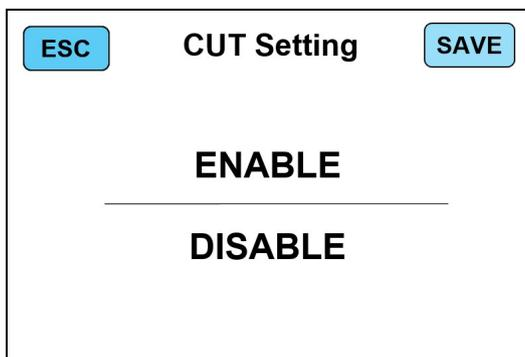
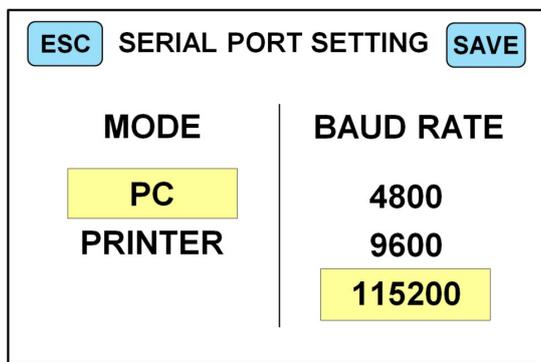

Figure 55
Figure 56
- 2) Click “4. Printer Cut” to enter the interface of cut setting, as shown in Figure 55.
3) Press “**3.Serial port mode**” under figure 55 and enter into SERIAL PORT MODE interface as shown in figure 56.
5) According to the software version number displayed, select the corresponding software version in the interface of Figure 55, and then press the "SAVE" button in the upper right corner to save it.